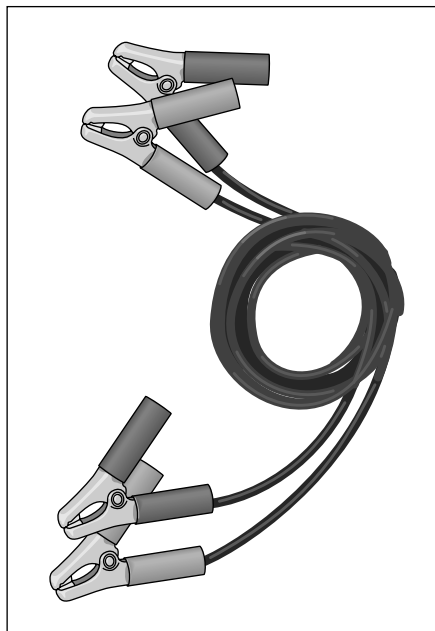

Figure 3-17: Jumper cables.
- ✔ **Jumper cables:** One of the most common automotive malfunctions is the loss of power to start the engine, either from an old or faulty battery or from leaving the headlights on by mistake. If you're in this situation, *and if your owner's manual indicates that you can jump a start without harming your **onboard computer***, you can wait for AAA or CAA roadside assistance (if you're a member) or a nearby garage to come and bail you out; or, *if you're in a safe, well-populated area*, you can stop a passing vehicle, whip out your **jumper cables** (shown in Figure 3-17), attach them in seconds, and “jump a start” from the Good Samaritan's vehicle to your own. Many people are willing to lend their cars to this sort of operation because they lose nothing but a few minutes of their time, but it's up to you to decide whether you want to risk getting carjacked if the Good Samaritan turns out to be a devil in disguise. Your alternative, of course, is to use your